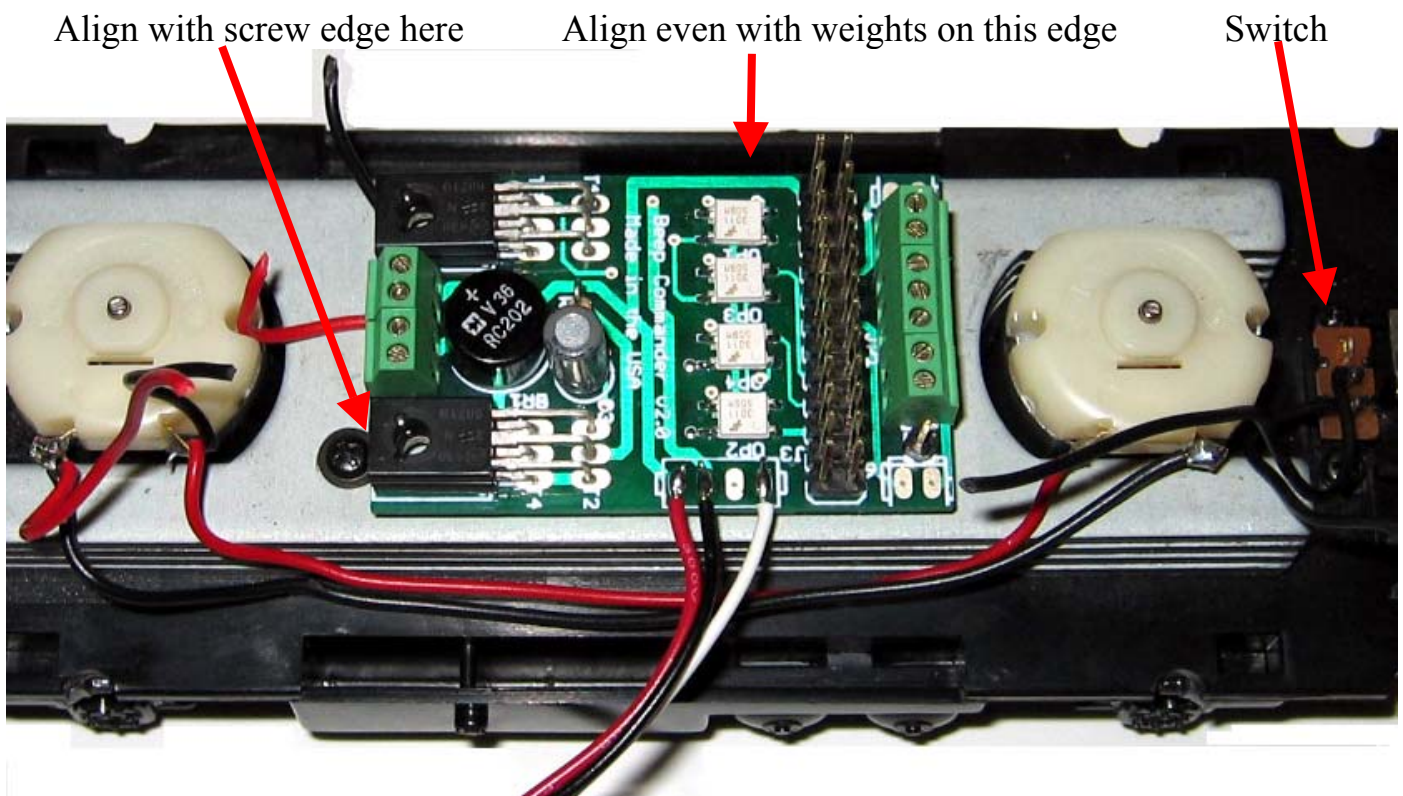

Figure 2
1. Looking at figure 2, *test fit* the Beep Commander v2 circuit board. Verify the orientation, using the switch as a reference. There is a post that mounted the old electronics that will engage with the backside of the connector on the Beep Commander v2 circuit board, and will help with the positioning. Align with the weights and screw edges as shown.